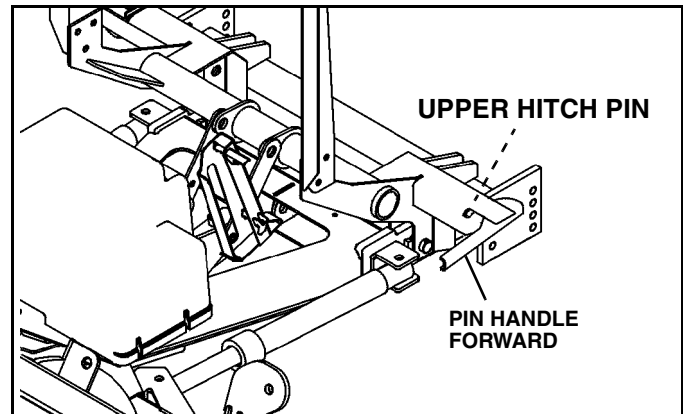

Figure 1-10
4. Put plow into float position by turning down pressure off. Rotate pin handles forward to lock upper hitch pins in place. (See Figure 1-10).